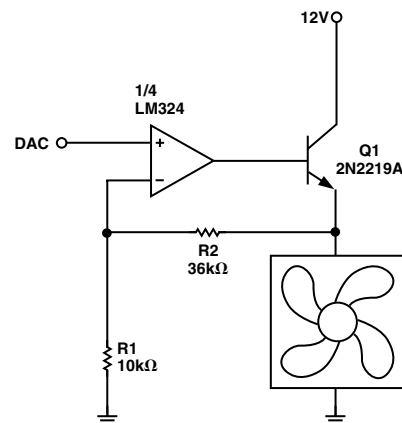

Figure 14a. Fan Drive Circuit with Op Amp and Emitter-Follower
Suitable fan drive circuits are given in Figures 14a to 14e. When using any of these circuits, the following points should be noted:
1. All of these circuits will provide an output range from zero to almost  $+12\text{ V}$ , apart from Figure 14a, which loses the base-emitter voltage drop of Q1 due to the emitter-follower configuration.